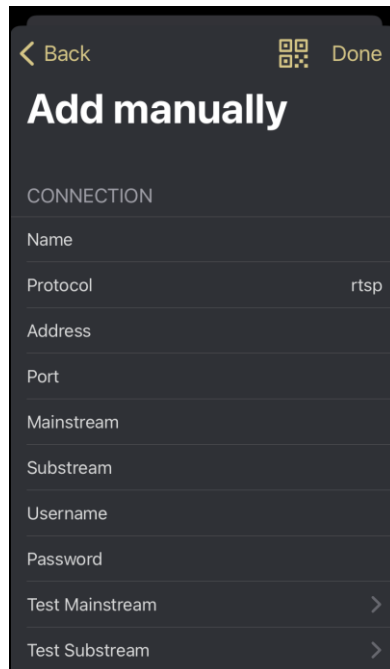

Fig. 8. INTEGRA CONTROL application. Screen for adding a camera with no settings defined.
4. Tap  and select “Add manually”. The screen for adding a camera will open (Fig. 8).